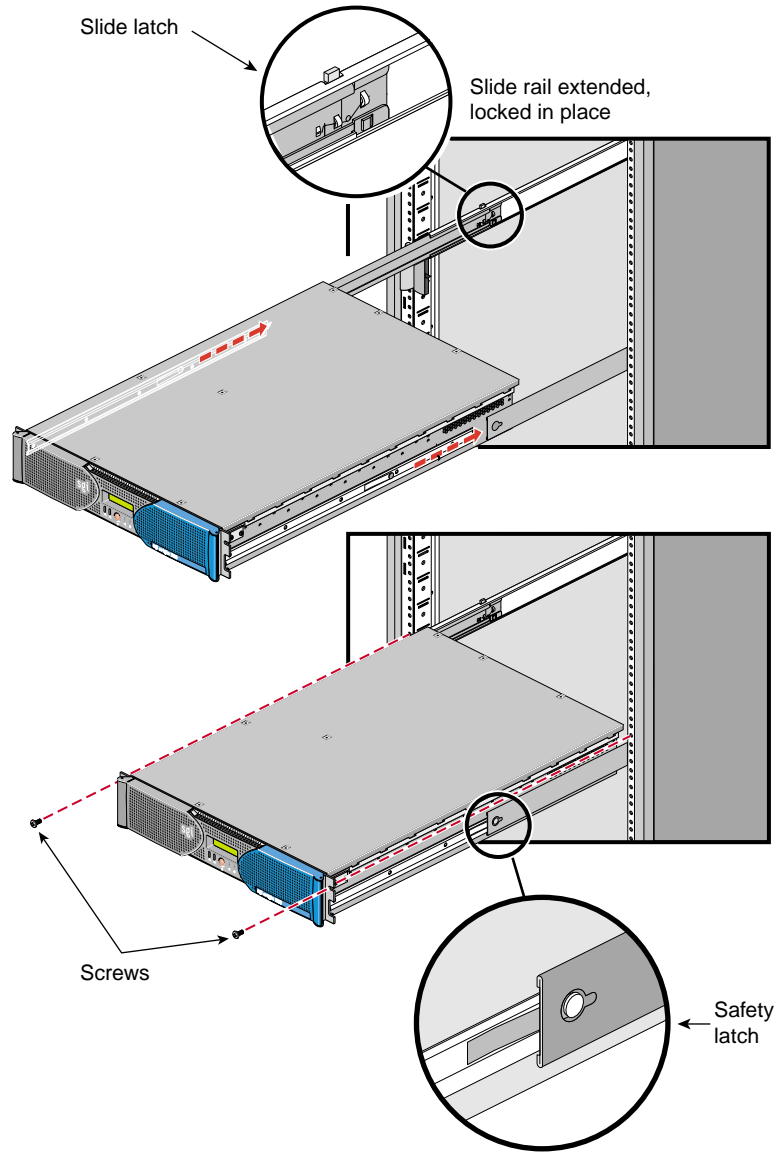

Figure 7 Installing Module in Rack
12. Install the module in the rack by performing the following steps (see Figure 7):